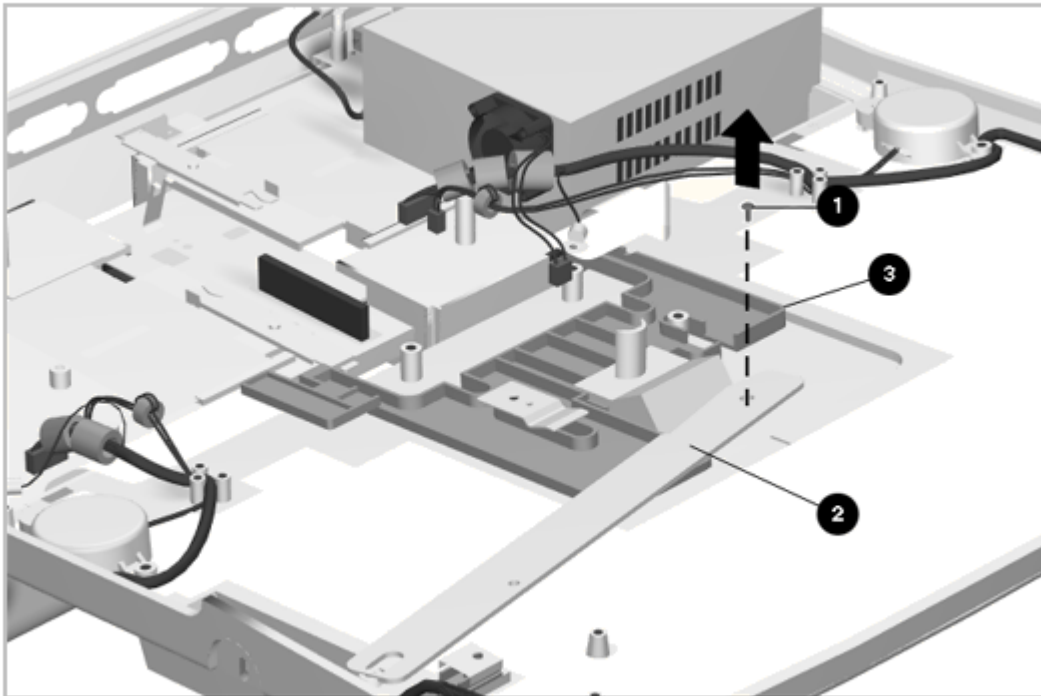

Figure 6-31. Disconnecting the Docking Bar from the Puller Plate
4. Remove the screw and washer [1] that connects the docking bar [2] to the puller plate assembly [3] (Figure 6-31).